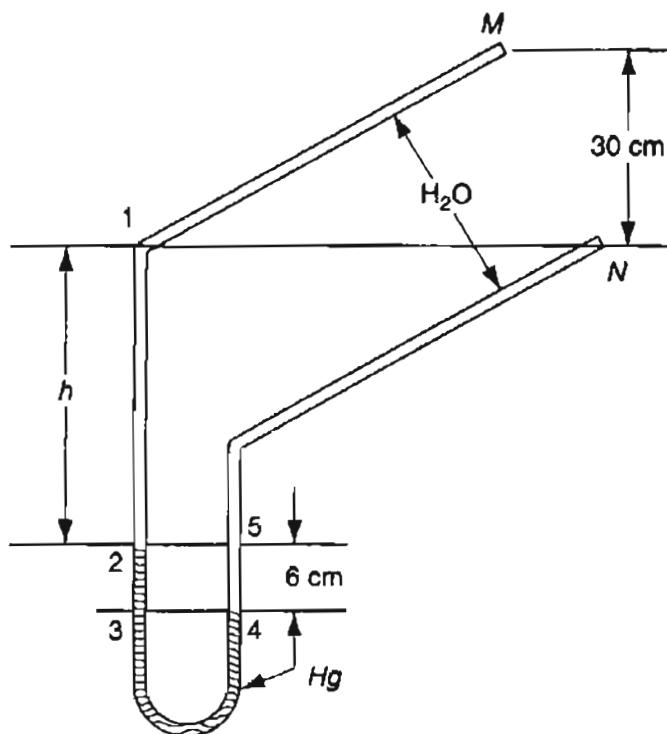

Figure P5.24
- ***5.24 In Figure P5.24, Hg is used to measure the pressure between the points M and N. Water occupies the space above the Hg. What is Δp between M and N? Which pressure is higher, p_M or p_N ?